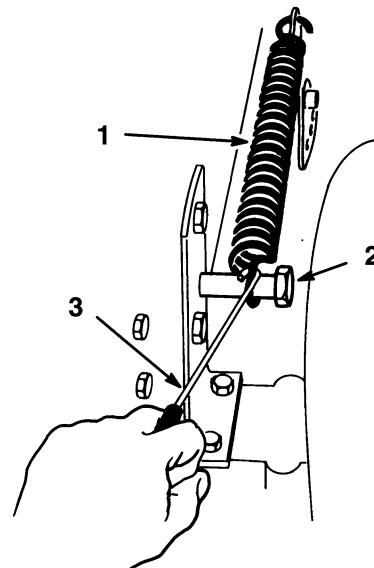

Figure 9
16. Hook the lift assist spring between the mower right side lift bracket and the retaining bolt (Fig. 9) Use the spring tool provided with the machine.